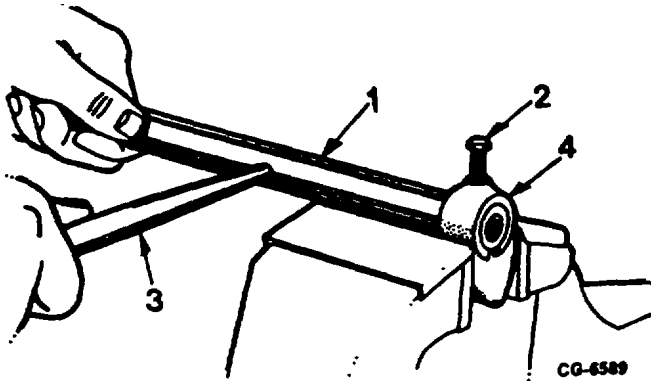
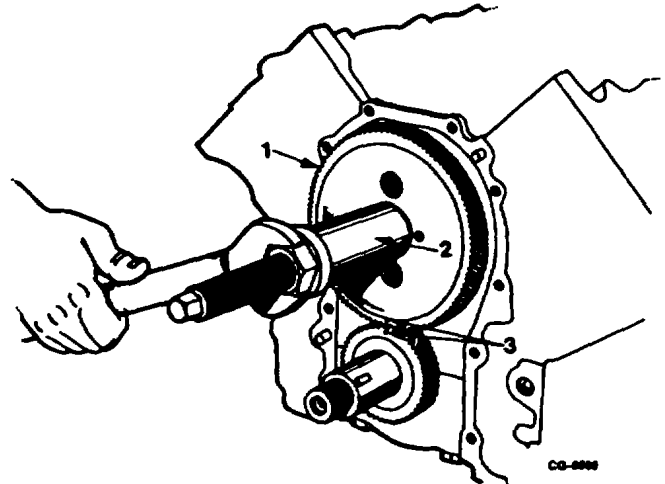

Figure 60. Turning Rocker Arm Shaft to Align Screw Holes
Figure 62. Installing Camshaft Gear
NOTE: If oil holes are not indexed when performing pressing operation, they can be aligned by installing oil feed support in a vise (Figure 60) and using a drift punch rotate shaft to permit tightening support screw finger tight. Using this method will eliminate the possibility of bottoming bolt against shaft, which could result in stripping threads in support. After support has been secured to shaft use a fine oil stone to remove any burrs caused by using drift punch in hole to turn shaft.
9. Place rocker arms, rocker arm shaft spacers and remaining supports on shaft making sure rocker arm shaft-to-arm oil feed holes are in a downward position. This will properly position rocker arm shaft oil feed holes so that oil feed hole in right rocker arm shaft assembly will be toward the rear, while oil feed hole in left rocker arm shaft assembly will be toward the front. See Figure 60 for correct installation.
WHERE DESIRED, CAMSHAFT, THRUST PLATE AND CAMSHAFT GEAR CAN BE INSTALLED INDIVIDUALLY. USING INSTALLER TOOL SE-1880, INSTALL CAMSHAFT IN CYLINDER BLOCK (FIGURE 60). INSTALL CAMSHAFT THRUST FLANGE AND TIGHTEN BOLTS TO SPECIFIED TORQUE. USING SE-1900 INSTALLER AND SE-1900-2 ADAPTER, INSTALL CAMSHAFT GEAR ON CAMSHAFT (FIGURE 62).